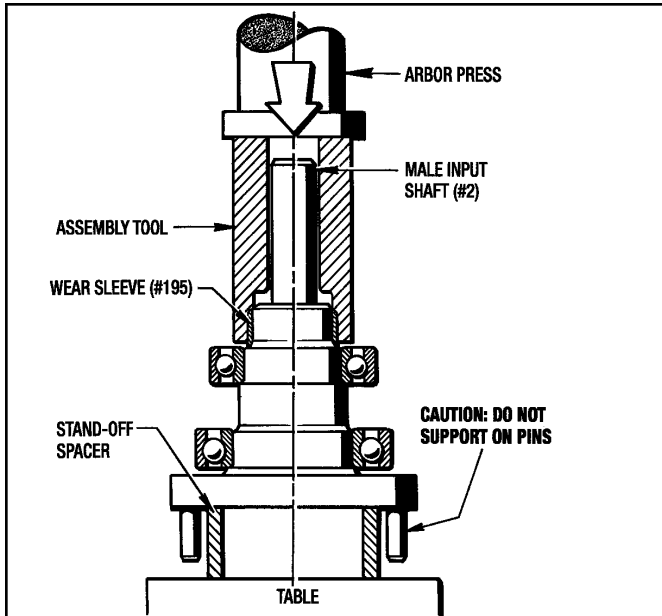

Figure 9.6 - Installing Wear Sleeve (#195) on Male Shaft
3. With an arbor press and the appropriate Assembly Tool, install the Wear Sleeve (#195) onto the Male Input Shaft (#2) as shown in Figure 9.6 on next page.